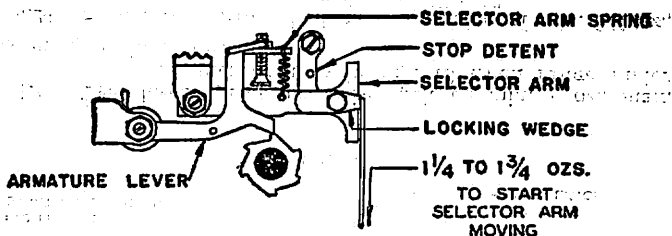

Fig. 11
4.21 **Selector arm spring** shall have a tension of min. 1-1/4 ozs., max. 1-3/4 ozs. measured as in Fig. 11 when armature lever is on a high part of its cam and selector arm stop detent spring is unhooked.